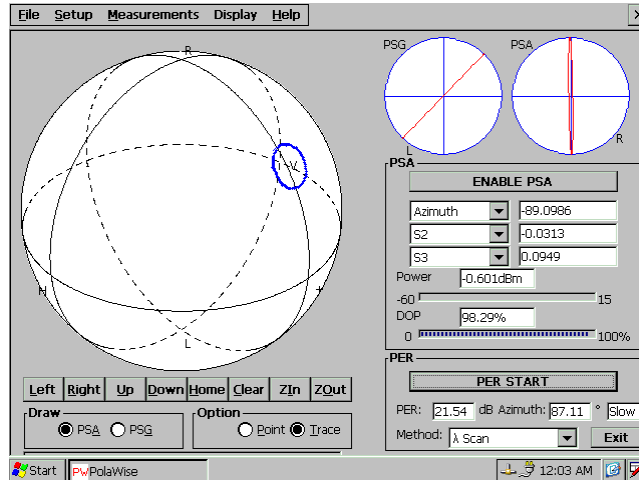

Figure 33 PER Measurement Results
- Once a sufficient section of a circle has been traced out, click the “**PER STOP**” button to calculate the PER and the key alignment angle (Figure 33).